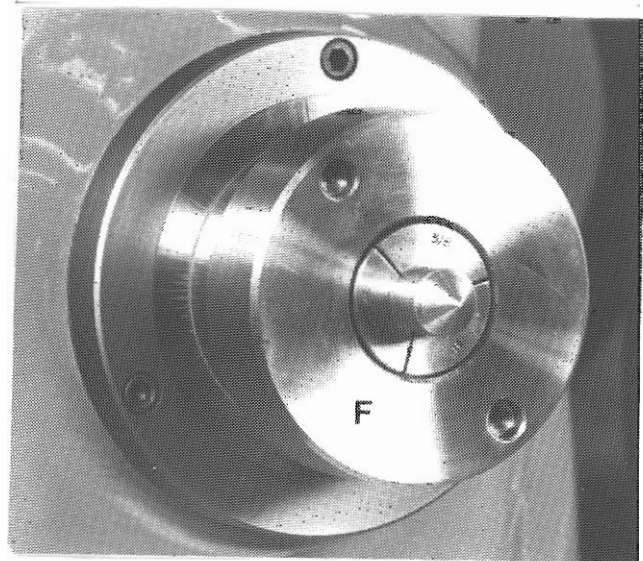

Figure 10.2 - #21 Collet Nose Cap
4. Use spanner wrench supplied with machine to remove nose cap "F", Figure 10.2. DO NOT USE A HAMMER AND PUNCH.